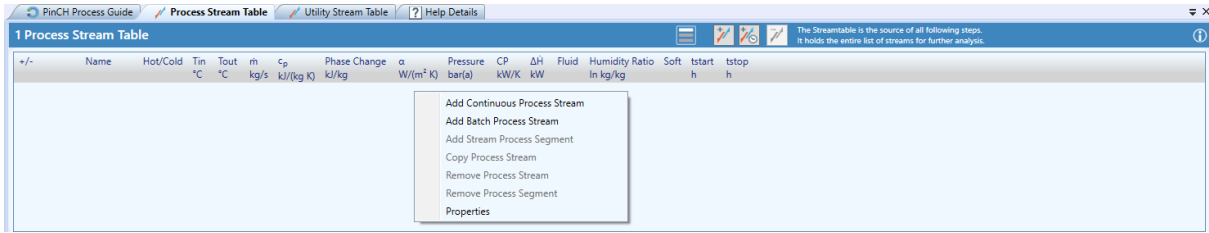

Figure 5: Adding a continuous stream in the Process Stream Table
-  select Add Continuous Process Stream (see Figure 5)